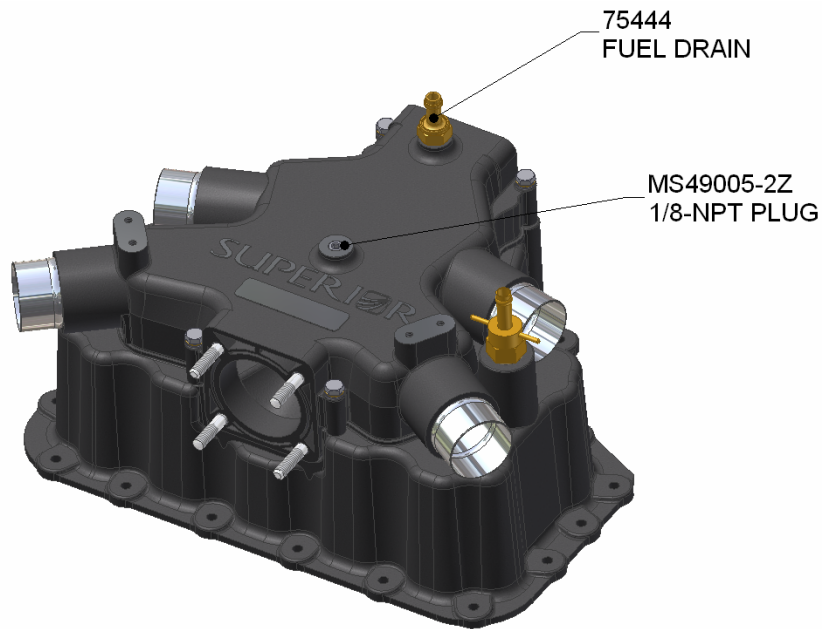
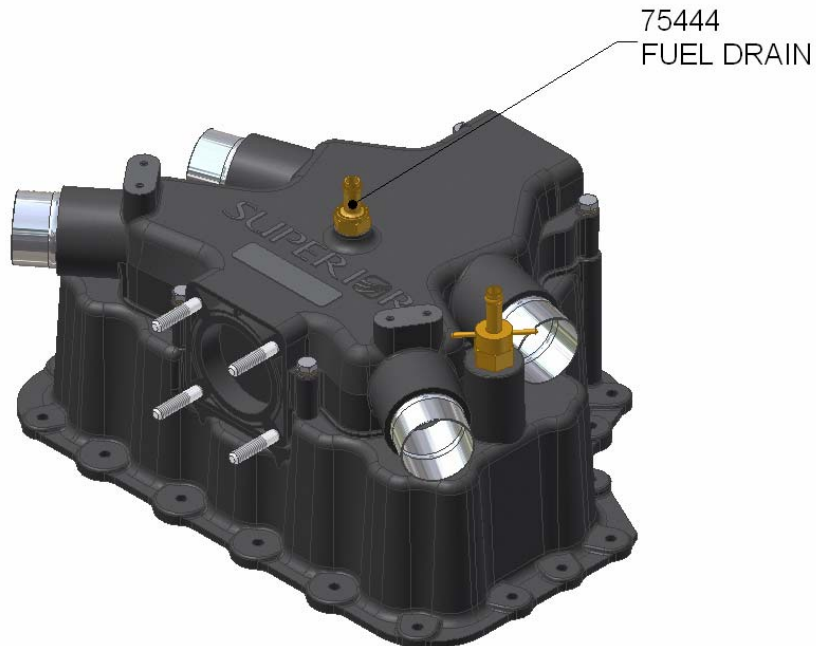

Figure 2
Figure 3
3. Apply aviation grade Form-A-Gasket to the threads of the Fuel Drain and 1/8-NPT Plug and install as shown in Figure 2 below. Torque to 40 In-Lb as specified in the instruction card packaged with the Fuel Drain. **NOTE:** The location of the Fuel Drain valve and 1/8-NPT Plug are interchangeable. Location should be chosen such that sufficient clearance exists between the Fuel Drain and exhaust pipes or other components. **NOTE:** Installations on aircraft with tail wheel configurations require the use of a Fuel Drain installed in the rear boss location as illustrated in Figure 2 of this Service Letter. In this configuration, the Fuel Drain Ports in the forward boss of the manifold should be plugged with a 1/8-NPT fitting. **NOTE:** Lightweight sumps provided for Lancair installations have only one drain boss near the center of the intake manifold (See Figure 3). The Fuel Drain valve is installed in this 1/8-NPT threaded hole. A 1/8-NPT plug is not required for this application. Lightweight Sumps with only one fuel drain boss can not be used in tail wheel installations.